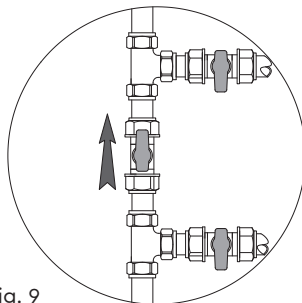

Fig. 9
- It is advisable to fit a bypass pipe and isolating valves. This will allow removal of the pump for maintenance and servicing, and ensure the water supply into the property is still available during that period (Fig. 9).